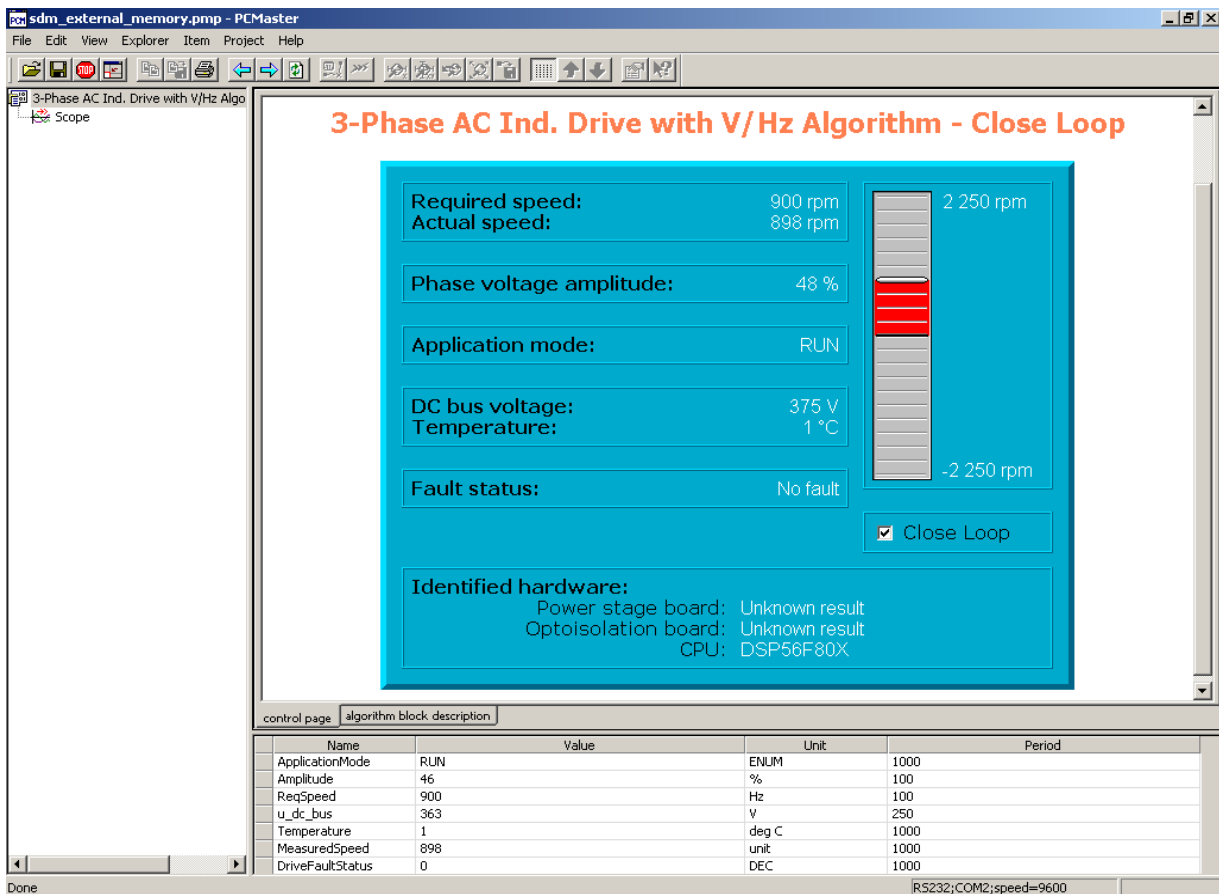

Figure 1-3 PC Master Software Control Window
- Set Close/Open loop by checking/unchecking the “Close Loop” checkbox; see Figure 1-3
Start the PC master software window's application and choose the PC master software project for the desired PC master software Operating Mode. Figure 1-3 shows the PC master software control window for **internal pROM-xRAM.pmp**.